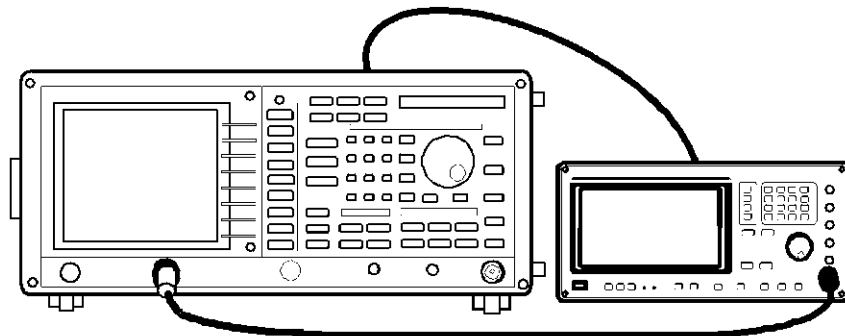

Figure 5-30 Setup for Checking the Offset Error (External Mixer Mode)
1. Connect the instruments as shown in Figure 5-30.